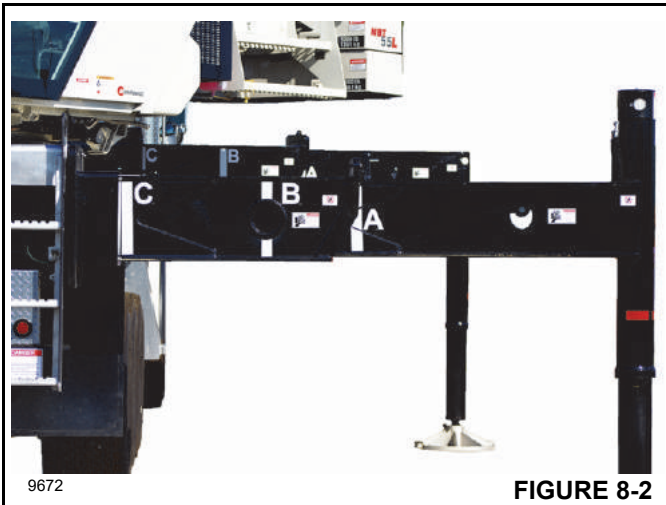

FIGURE 8-2
1. Fully extend and set the outriggers. Refer to (Figure 8-2).